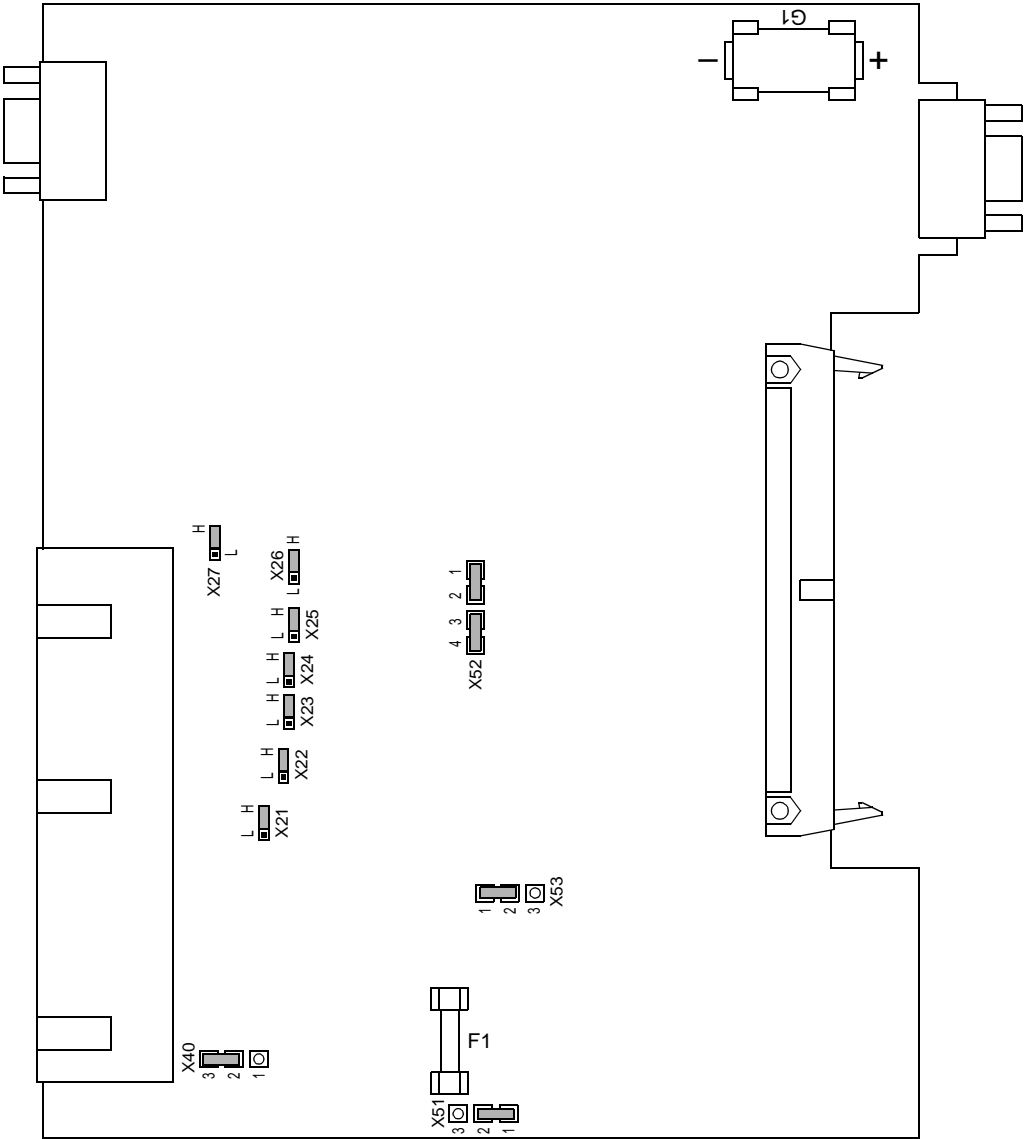

Figure 8-8 Jumpers On The CPU Board For The Power Supply And Binary Inputs BI1 To BI7 (Simplified)
- ☐ Disconnect the ribbon-cables between the CPU board (❶) and the I/O boards (❷❸).
- ☐ Check the jumpers according to Figures 8-8 to 8-12, and Tables 8-2 to 8-9. Change or remove the jumpers as necessary.